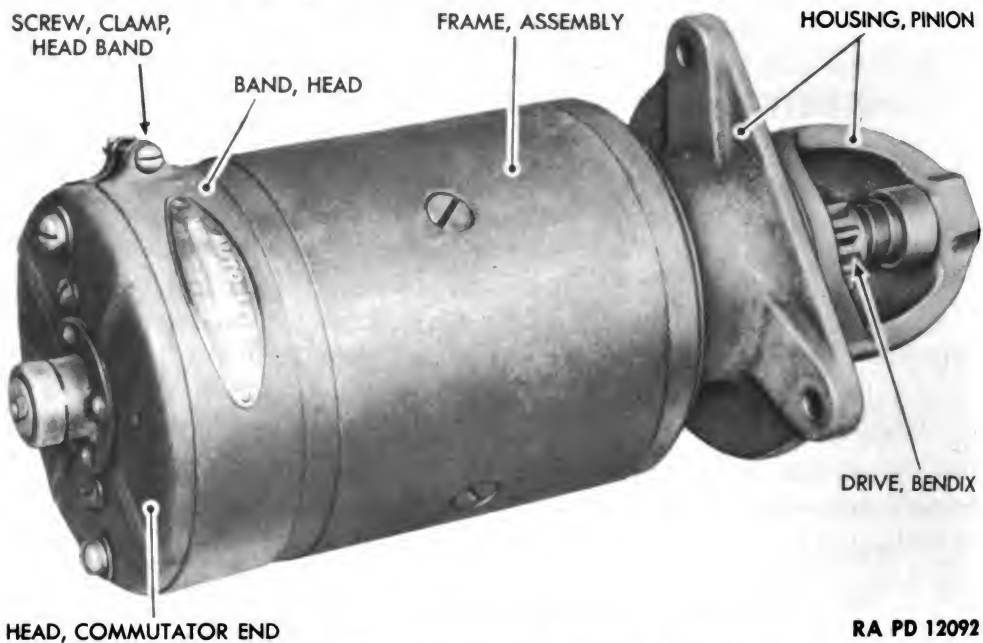

Figure 159 – Starting Motor Assembly
b. **Motor.** The starting motor (fig. 159) is of the four brush type with a Bendix drive. It is mounted on the flywheel housing at the lower left-hand side of the engine. The motor consists of a frame and field assembly, armature, and end plates. The four pole pieces and the four field coils are mounted in the frame. The field coils are connected in series. One lead of the coils is connected to an insulated terminal post, which passes through the frame. The other lead is connected to the brushes, which are held in brush holders in the commutator end plate. The commutator end plate is held to the frame.
c. **Drive.** The Bendix drive is mounted on the drive end of the armature. It gears the starting motor to the engine (fig. 159) when the starter switch is closed, and releases it when the engine is started. It consists of a gear mounted on a hollow spiral shaft, connected by splines to the armature shaft.